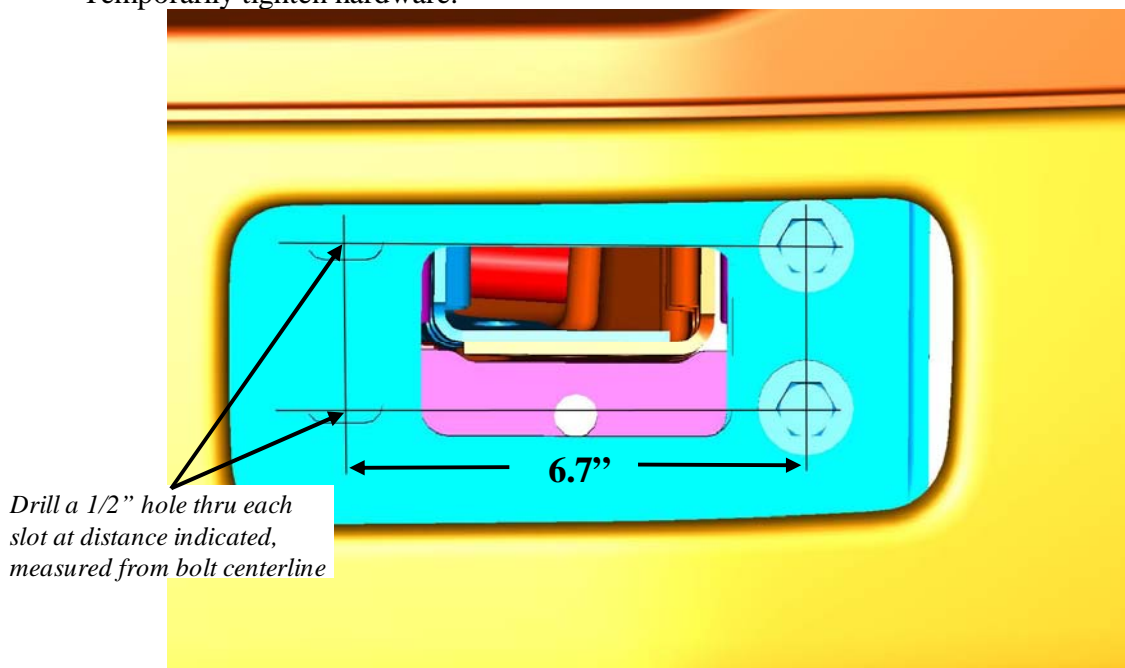
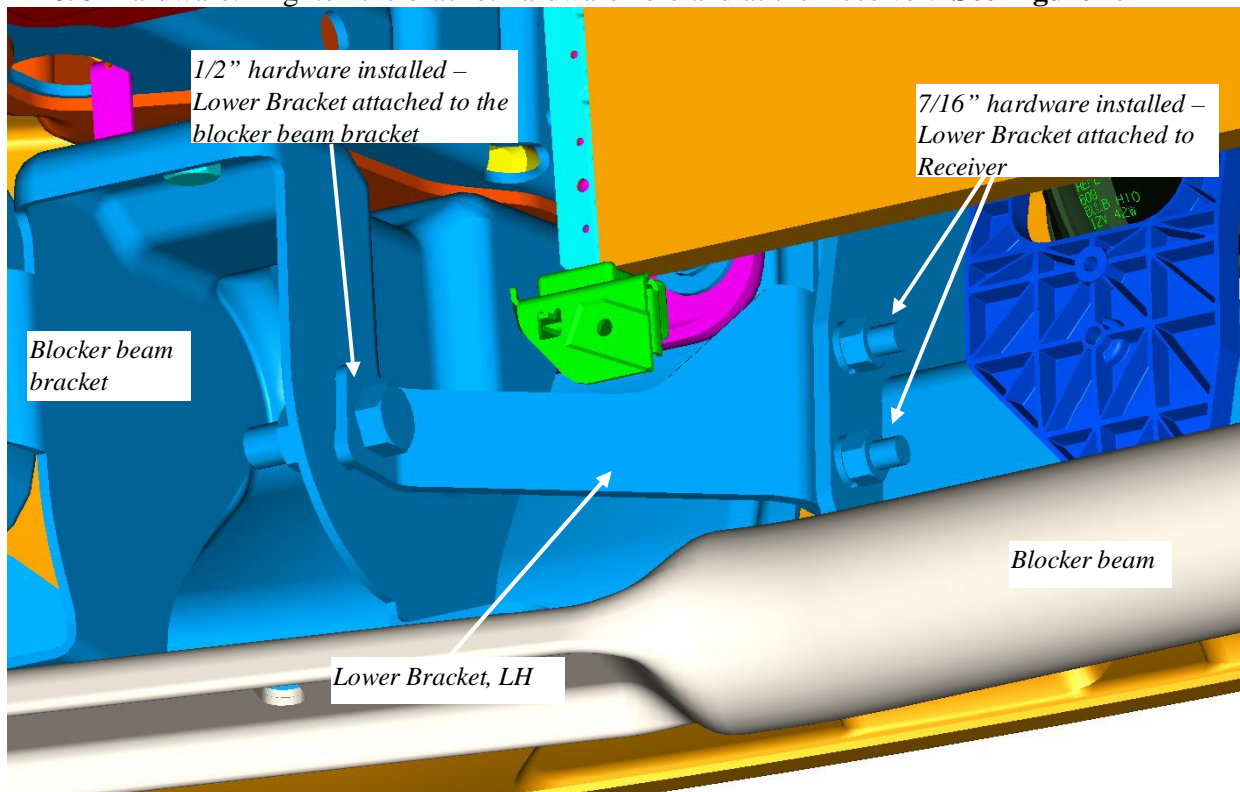

Figure 6 Bumper front
Figure 7 LH Lower Bracket installed
7. Install the Lower Brackets to the outsides of the Receiver. Use the 7/16" hardware. Do not tighten. **See Figure 7**
12. Measure 6.7" across from the bolt centerline and drill a 1/2" hole through each inboard slot in the Receiver into the bumper plate. The holes should line up with existing slots in the frame behind. **See Figure 6.**
14. Slide one(1) Shim between the Receiver and the bumper plates at the drilled 1/2" holes. Install 1/2" hardware through the drilled holes.
16. Attach each each Lower Bracket to the slot in the inboard side of the blocker beam bracket with 5/8" hardware. Tighten the bracket hardware here and at the Receiver. **See Figure 7.**